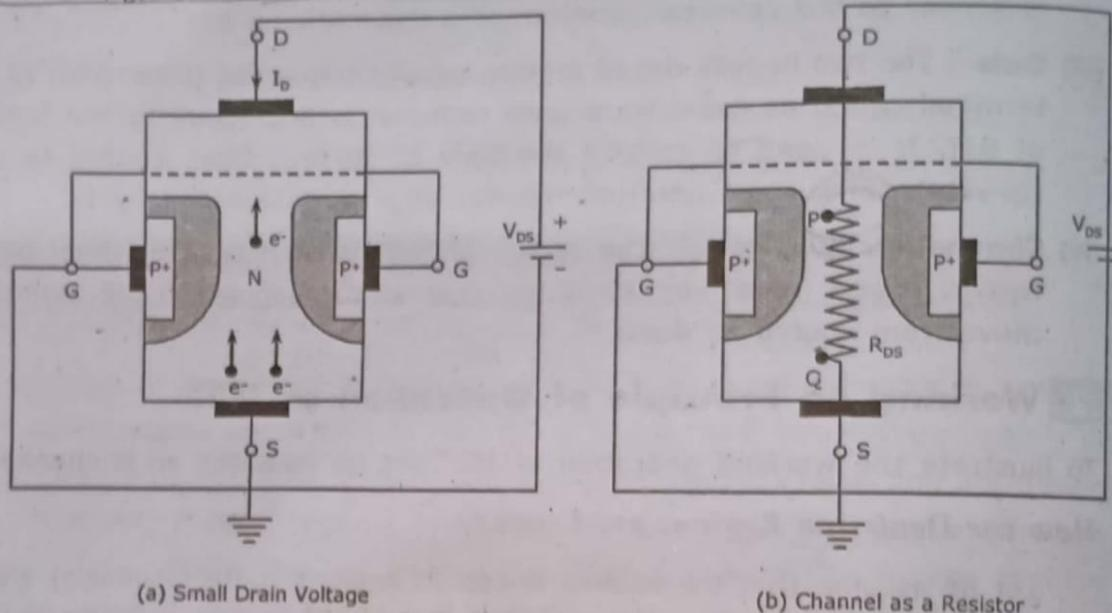

Fig. 4.2.4 JFET Operation when $V_{GS} = 0$ and V_{DS} is Applied
- (i) As drain is at positive potential with respect to source, hence electrons (carriers in N-channel FET) start flowing from source to drain which results a conventional current (I_D) to flow from drain to source as shown in Fig. 4.2.4(a),
Due to the flow of current, there will be a voltage drop along the channel. As channel opposes the flow of drain current I_D , hence it acts as a resistor denoted by R_{DS} as shown in Fig. 4.2.4(b). Consider two points P and Q within the channel such that P is near to the drain and Q is near to the source end. Let V_p and V_Q be the voltage drops at these points. Since, P is at a higher potential than point Q, that is $V_p > V_Q$. Hence gate is more negative at various points along the channel which are nearer to drain. Because of this reason *depletion regions penetrate more deeply into channel at points closer to drain than at points closer to source*.